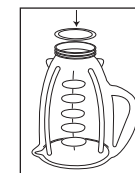

Fig. 1
1. Turn jar upside down so the small opening is at the top. Then place sealing ring over jar opening. (Fig. 1)